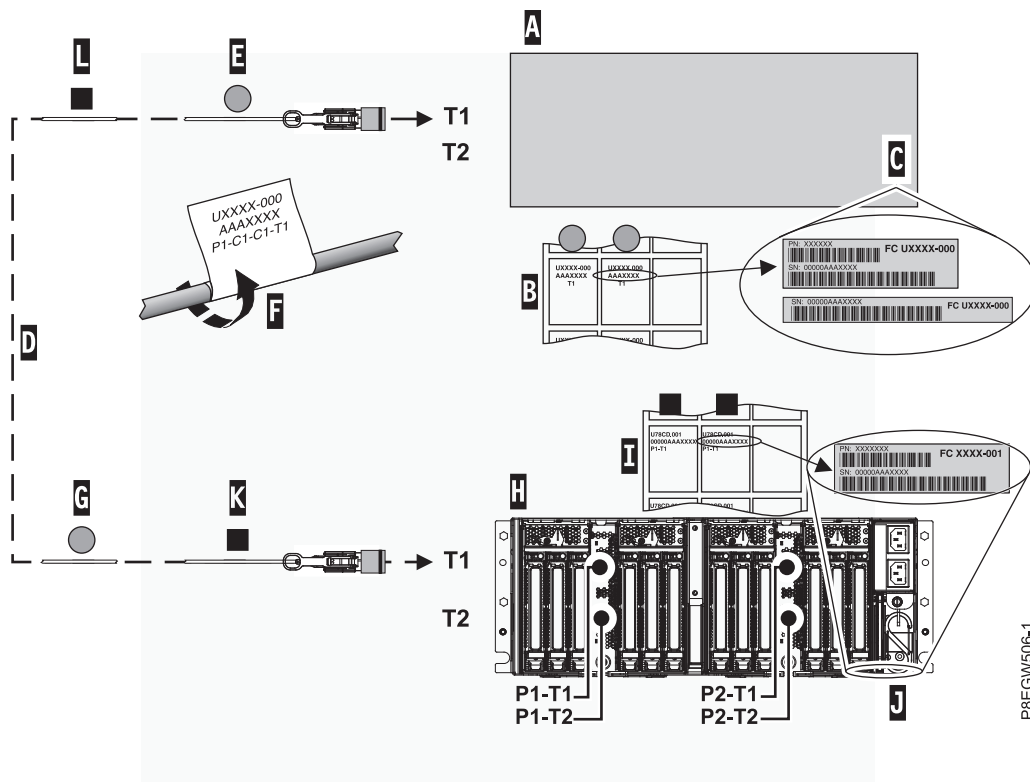

Figure 17. Labeling an active optical cable
Note: While you are completing these steps, refer to Figure 17 on page 23 as a reference.
- e. Locate the labels on the host system label sheet (B) that correspond to the location of the PCIe3 cable adapter on the host system.
- f. Select one of the expansion drawer cables as the top cable (D) to attach to port T1.
- g. Attach the leftmost Cx-T1 label to the connector end of the cable (E). See Figure 17. Wrap the label with the blank end first so that the location information (F) is visible.
- h. Take the second label Cx-T1 from the host system label sheet (B) and place it on the opposite end of the cable that attaches to the EMX0 PCIe3 expansion drawer. Ensure that the label is placed more than 100 mm (4 in) from the end of the cable (G). See Figure 17.
Note: While you are completing these steps, refer to Figure 17 as a reference.
- a. Locate the EMX0 PCIe3 expansion drawer (H) that you are connecting to the host system.
- b. Locate the EMX0 PCIe3 expansion drawer serial number label sheet (I).
- c. Match the EMX0 PCIe3 expansion drawer serial number (J) to the serial number shown on the EMX0 PCIe3 expansion drawer label sheet (I).
- f. Attach the leftmost Px-T1 label to the connector end of the cable (K). See Figure 17. Wrap the label with the blank end first so that the location information (F) is visible.
- g. Take the second Px-T1 label from the expansion drawer label sheet and place it on the opposite end of the cable greater than 100 mm (4 in) from the end of the cable (L). See Figure 17 on page 23.
- a. Locate the connector end of the cable with the host system Cx-T1 label (E) and place it near the T1 port on the PCIe3 cable adapter.
- b. Route the cable and place the connector end (K) near the I/O module on the EMX0 PCIe3 expansion drawer.